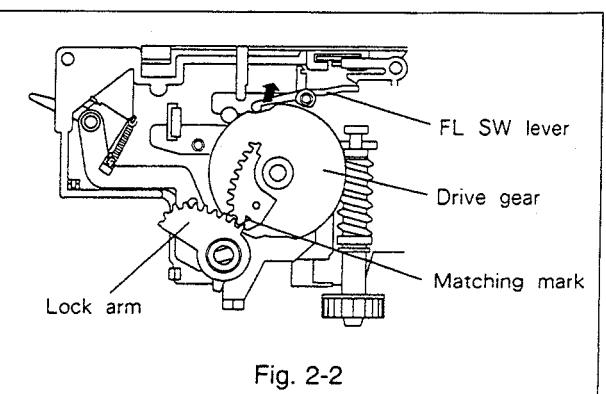

Fig. 2-2
- B. Turn the FL SW lever clockwise to separate the FL SW lever from the drive gear, and pull the lock arm and drive gear to remove them from the shaft as shown in Fig. 2-2.